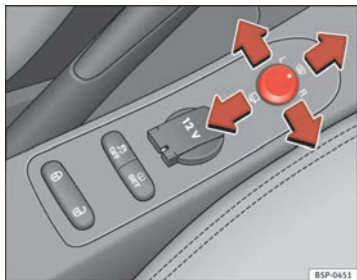

Fig. 91 Controls of exterior mirrors
1. Turn knob ⇒ fig. 91 to position **L (left exterior mirror)**.
- Turn the knob forwards to the central position ⇒ fig. 91 ① so that the heated rear view mirrors warm up and the heated windscreen* in the wiper blade rest area is activated. ⇒ page 130.
- Turn the control ⇒ fig. 91 to position  to fold in the exterior mirrors. You should always fold in the exterior mirrors if you are driving through an automatic car wash. This will help prevent damage.